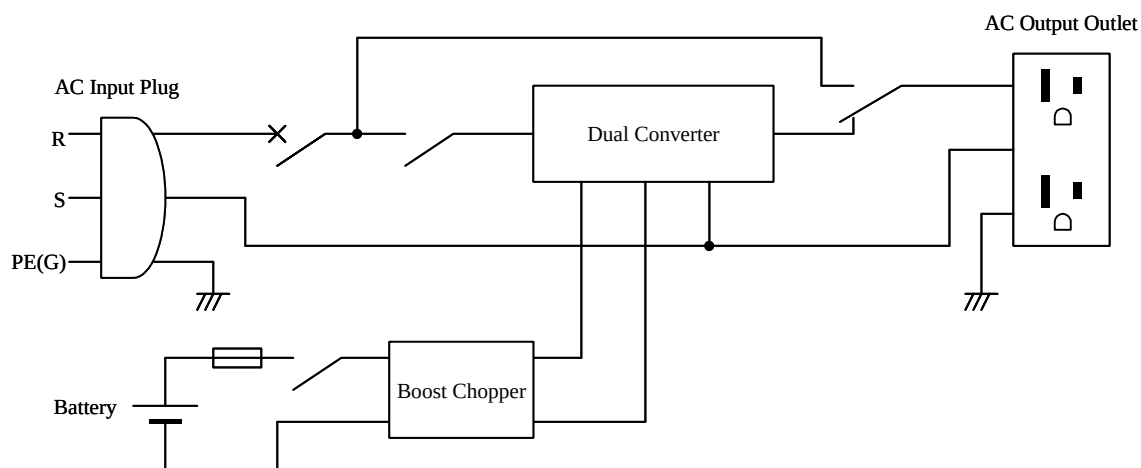
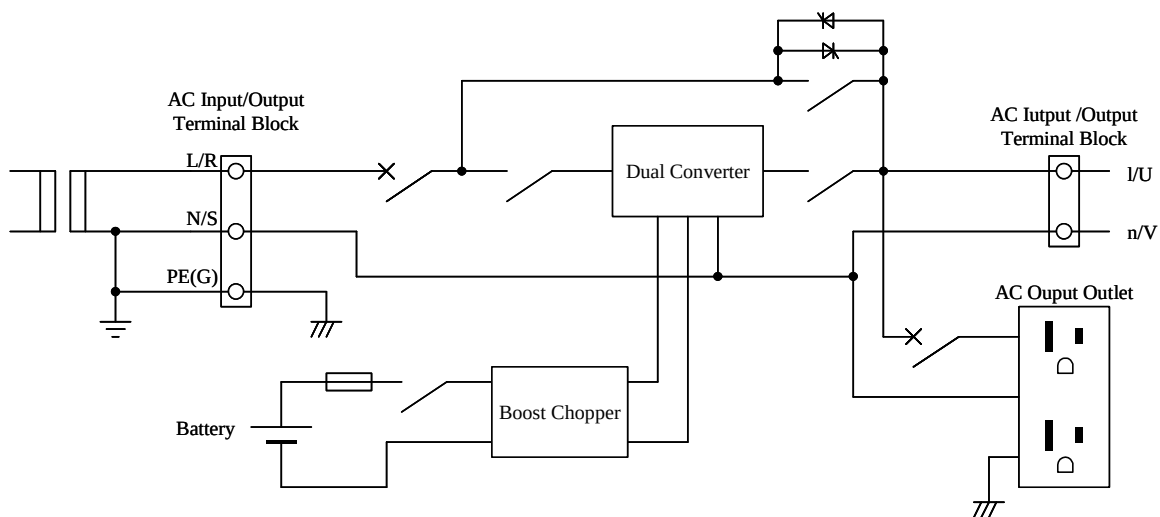

Figure 1 - Circuit diagram of Models M-UPS010AD1B-U and Models M-UPS015AD1B-U
Figure 2 - Circuit diagram of Models M-UPS020AD1B-U and Models M-UPS030AD1B-U
- Circuit diagrams are shown by figure 1 and figure 2.